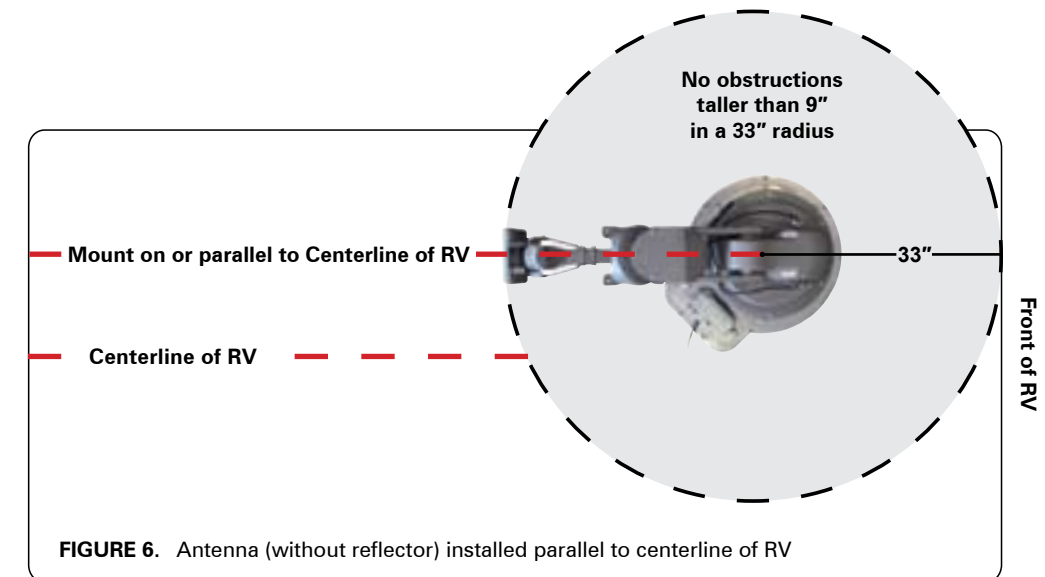

FIGURE 6. Antenna (without reflector) installed parallel to centerline of RV
1. Place the TRAV'LER antenna on the roof where you plan to install it. On the mount base, the transition plate is marked "FRONT" and "BACK." Rotate the TRAV'LER antenna until the front of the mount base faces the front of the RV. **The TRAV'LER antenna must be installed on or parallel to the centerline of the coach.** See figure 6.